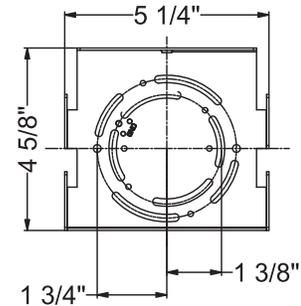
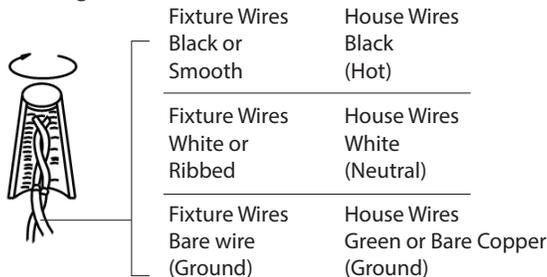

Fig. 2 Wiring
FIG.3 Driver Wiring
MOUNTING THE FIXTURE (Fig. 1/ Fig.3)
Note: Due to limited room within the canopy, shorten the cable as necessary to make the installation easier. Make sure to identify and label all the wiring properly before any trimming/shortening.(Fig.3)
CONNECTING THE WIRES (Fig. 2/ Fig.3)
7. Connect the driver output wire with fixture wire as shown in Fig. 2 red to the red, and black to the black. make sure connectors (B) are secured.
8. Connect the driver input wire with junction box as shown in Fig.2, make sure that all wire connectors (A) are secured. If your outlet box has a green or bare copper ground wire, connect the fixture's ground wire to it. Otherwise, connect the fixture's ground wire directly to the back plate using the GND screw provided. After wires are connected, tuck them carefully inside the junction box.